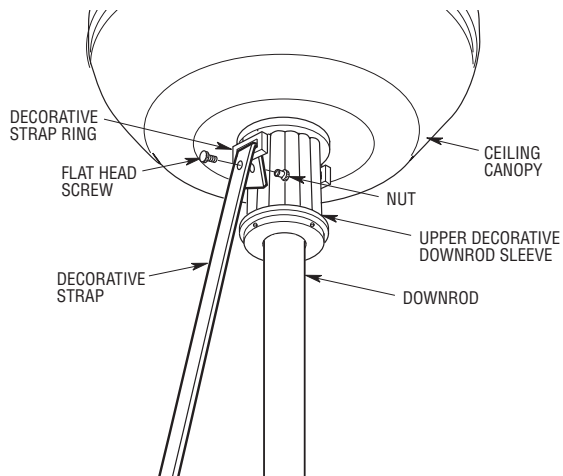

Figure 16
- 4. Attach the decorative straps to the upper ring using the flat head screw and nut (provided in the downrod kit), Figure 16.